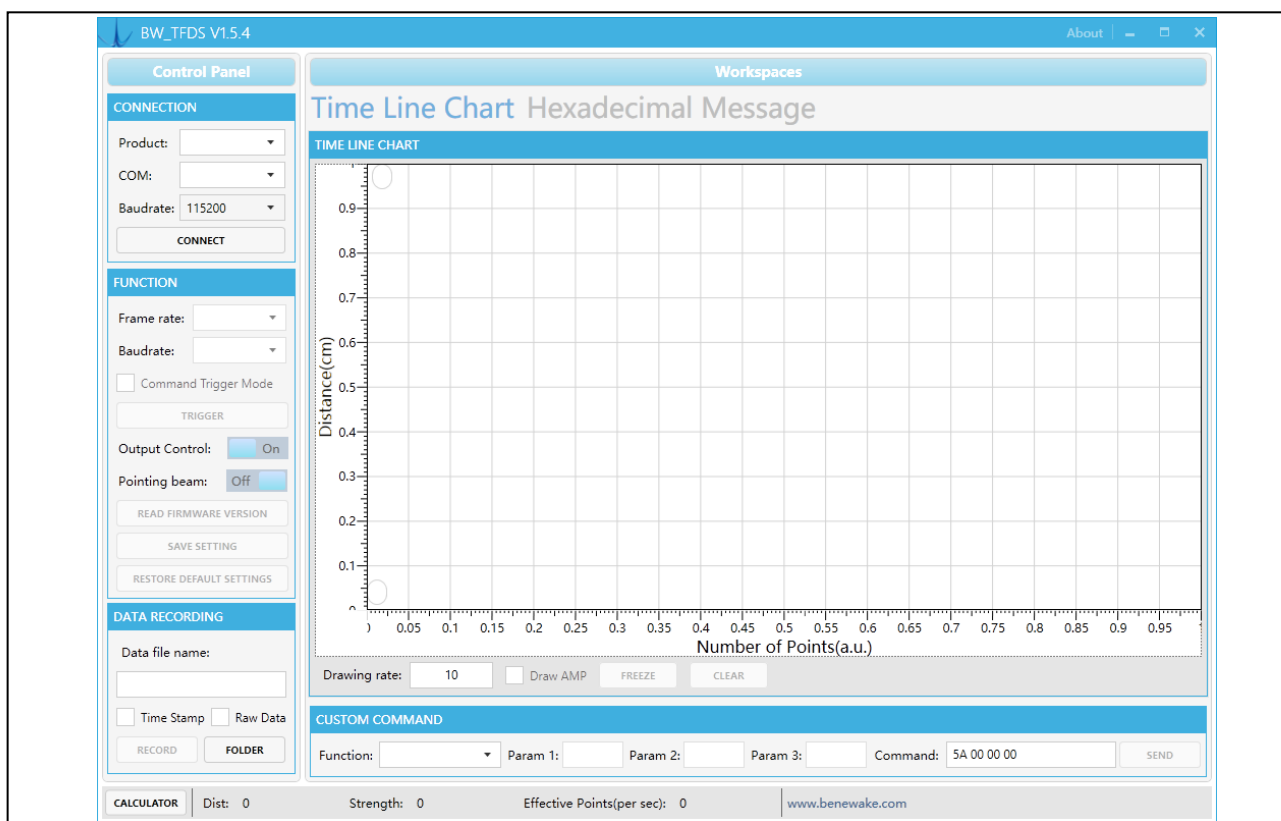

Figure 17 Benewake testing GUI for TF series
- See Figure 17 Benewake testing GUI for TF series for of the GUI.